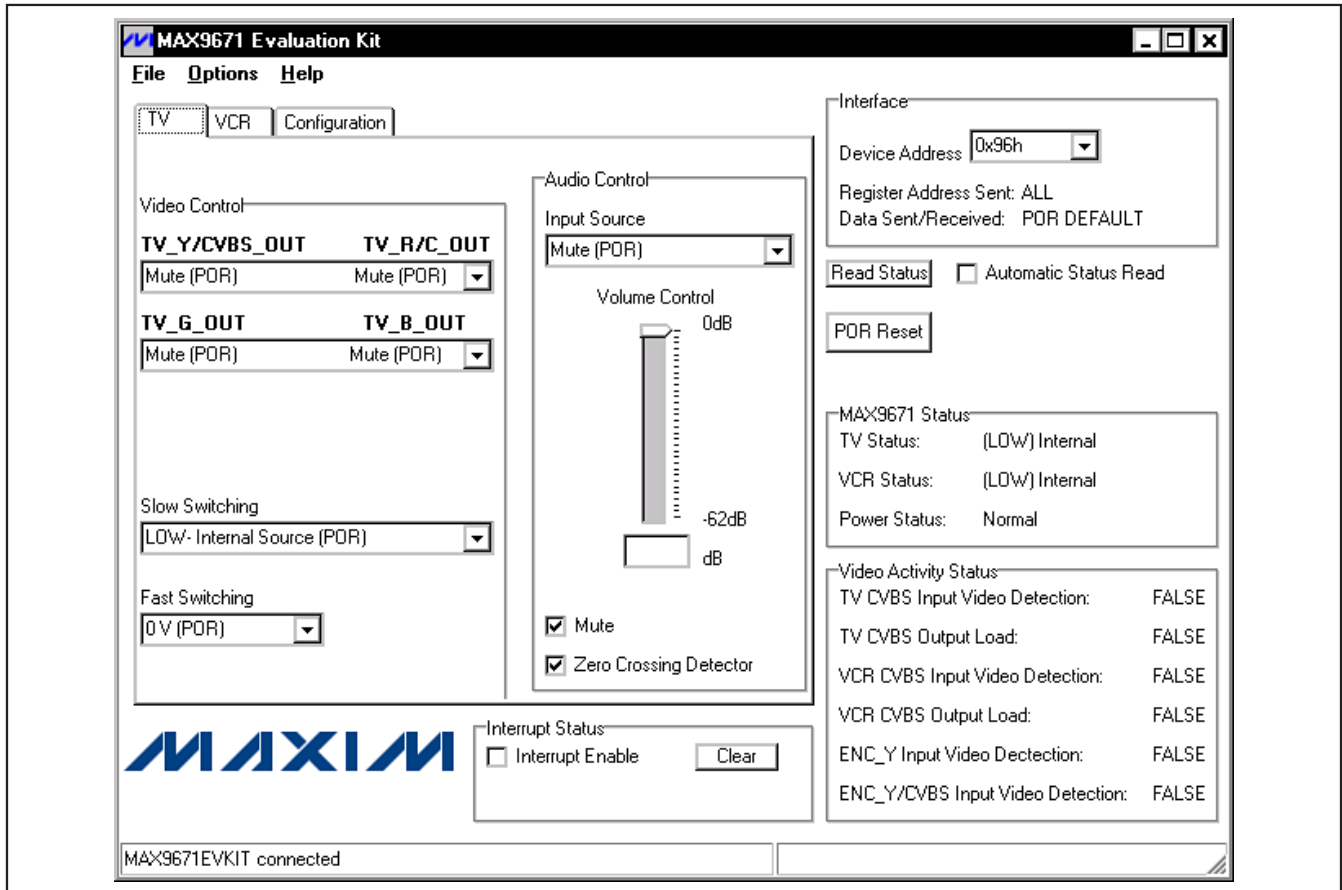

Figure 1. MAX9671 EV Kit Software Main Window (TV Control Tab)
- 16) Start the EV kit software by opening its icon in the **Start | Programs** menu. The EV kit software main window appears, as shown in Figure 1. Observe as the program automatically detects the address of the MAX9671 and starts the main program.
The user interface (Figure 1) is easy to operate. Use the mouse, or press the tab key to navigate with the arrow keys. Each of the buttons correspond to bits in the command and configuration bytes. By pressing them, the correct I²C-compatible write operation is generated to update the internal registers of the MAX9671. The **Interface** group box indicates the current I²C-compatible **Device Address**, **Register Address Sent**, and the **Data Sent/Received** for the last read/write operation. This data is used to confirm proper device operation.
The **Video Control** group box of the MAX9671 EV kit software (Figure 1) allows the user to reroute selected signals to the TV SCART connector. Other functions, such as **Fast Switching** and **Slow Switching**, can also be changed through the **Video Control** group box. Manipulate the drop-down lists to achieve the desired result.